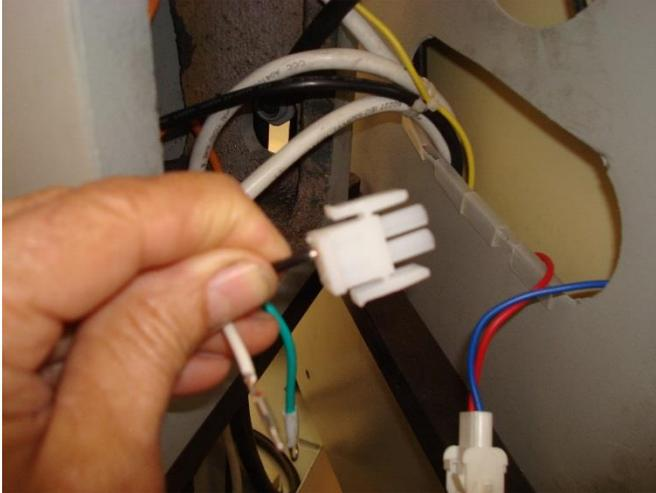
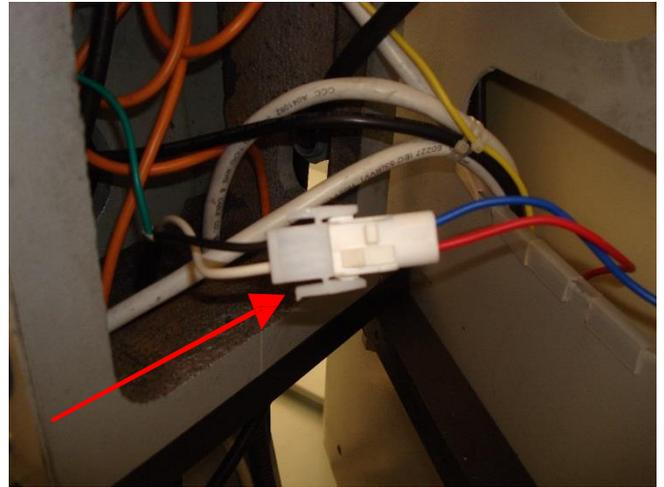

Figure 3-83
Figure 3-84
- 3) Insert the black and white wires coming from the coolant pump into the white male plug (Figure 3-83). Connect the white male plug to the white female plug protruding from the back of the modular cabinet (Figure 3-84).